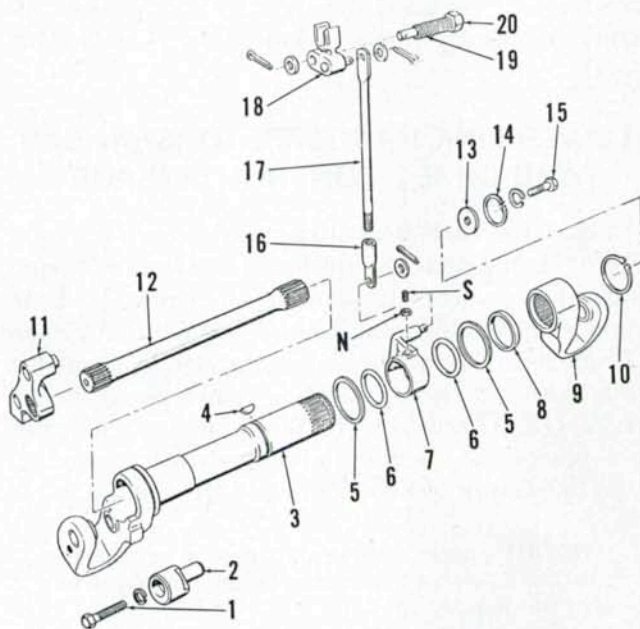

Fig. 337—Exploded view showing torsion bar, lower link hangers and draft control linkage. Refer to Fig. 338 for adjustment of draft control link (16 and 17).
**252. TORSION BAR.** To remove torsion bar (12—Fig. 337), first remove hitch lower link from left-hand lower link hanger (3). Remove cap screw (15) from right end of torsion bar. Unbolt and remove torsion bar anchor (11), then withdraw torsion bar from lift link hanger. If bar is broken or seized, remove snap ring (14) and flat washer (13) from right end of lower link hanger (3), then use suitable drift to drive torsion bar from right to left out of the hanger.
**253. LOWER LINK HANGERS.** To remove lower link hangers (3 and 9—Fig. 337), first drain oil from rear axle center housing. Remove hitch lower links from the hangers. Remove cap screw (15) and snap rings (10 and 14), then remove right hanger from end of left hanger.
**254. DRAFT CONTROL LINKAGE.** To service draft control linkage shown in Fig. 337, lift cover must first be removed as outlined in paragraph 245. The eccentric pin (19), lever assembly (18) and link (16 and 17) can then be removed. To remove draft control arm (7), follow procedure outlined in paragraph 253 for removal of left lower link hanger (3).